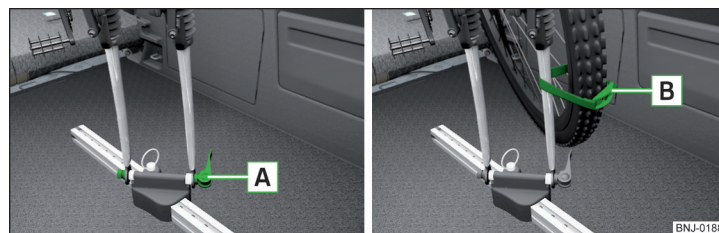

Fig. 121 Insert the front fork of the bicycle into the carrier / mounting example of the front wheel
- › Release the quick release **A** » Fig. 121 on the carrier and adjust according to the bicycle fork width.
- ▶ Attach the front wheel with belt **[B]** to the front fork » Fig. 121 or to the bicycle frame.